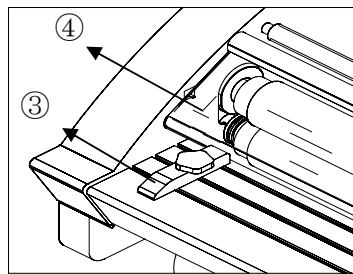

Figure 3
**Feed Guide (3)** -The feed guide permits alignment of the item(s) to be laminated. To position the adjustable guide, loosen the knob, slide it to the desired position and tighten the knob to secure the feed guide in place. (Fig.3)
**Safety Shield (4)** - It prevents entanglement